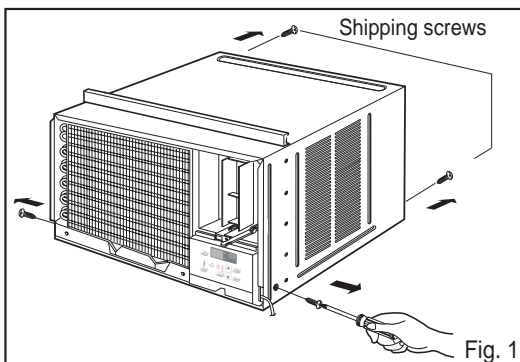

Fig. 1
1. Remove the screws which fasten the cabinet at both sides and at the back. (Fig.1)